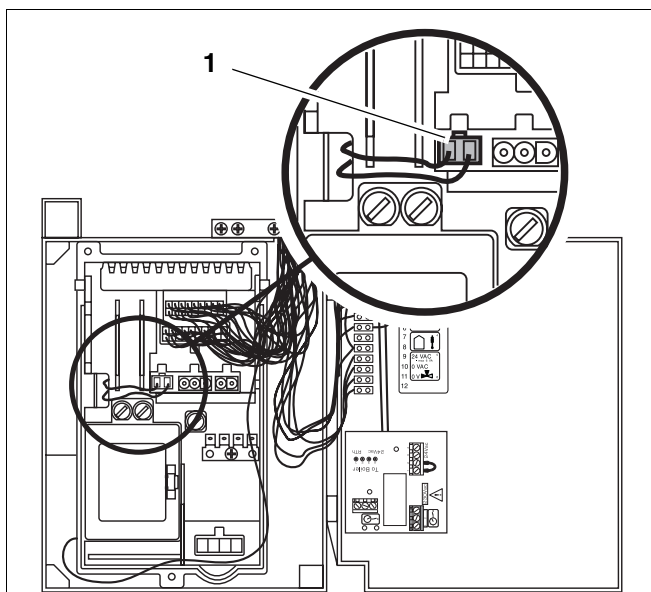

Fig. 63 Checking the mains supply
- Carry out the power test procedure (see fig. 63, item 1).